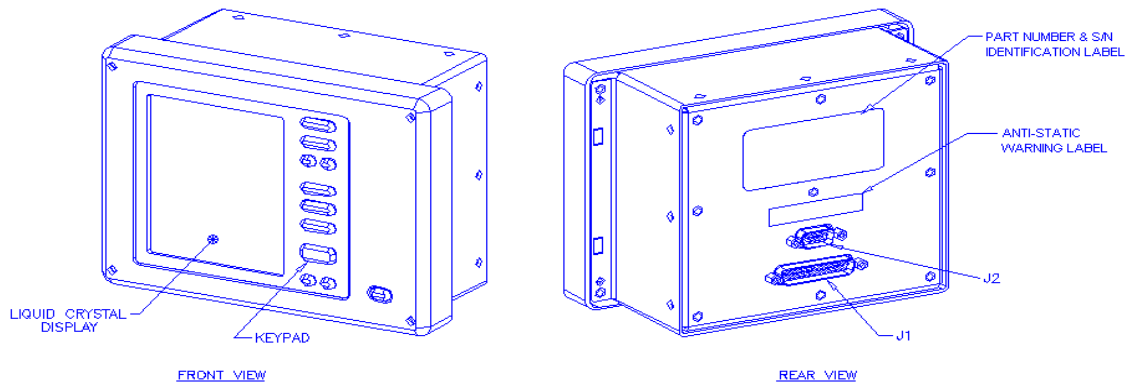

Figure 1. PBS600 Passenger Briefing System
- A. The PBS600 illustrated in Figure 1., is a computer controlled digital voice multi-language single-channel passenger briefing system which is designed for use in business aviation, regional airline, or major carrier operations. The system provides digital studio quality passenger briefings without moving parts.